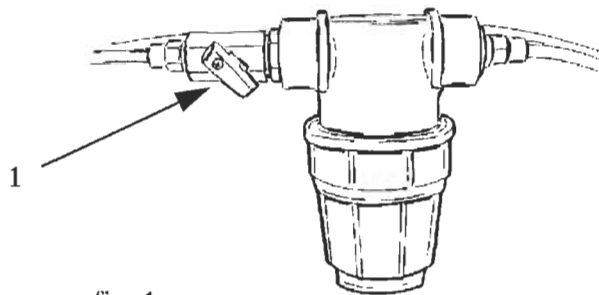

fig. 1
If during operation the valve on the filter is altered with (fig.1, pos.1), the piston which controls the butterfly valve could shut off violently and generate water hammer or could fail to shut the valve.
- 1) togliere il tappo posto nel raccordo di scarico della valvola (fig.1);
- 1) Take off the plug on the outlet connector of the valve (fig.1).